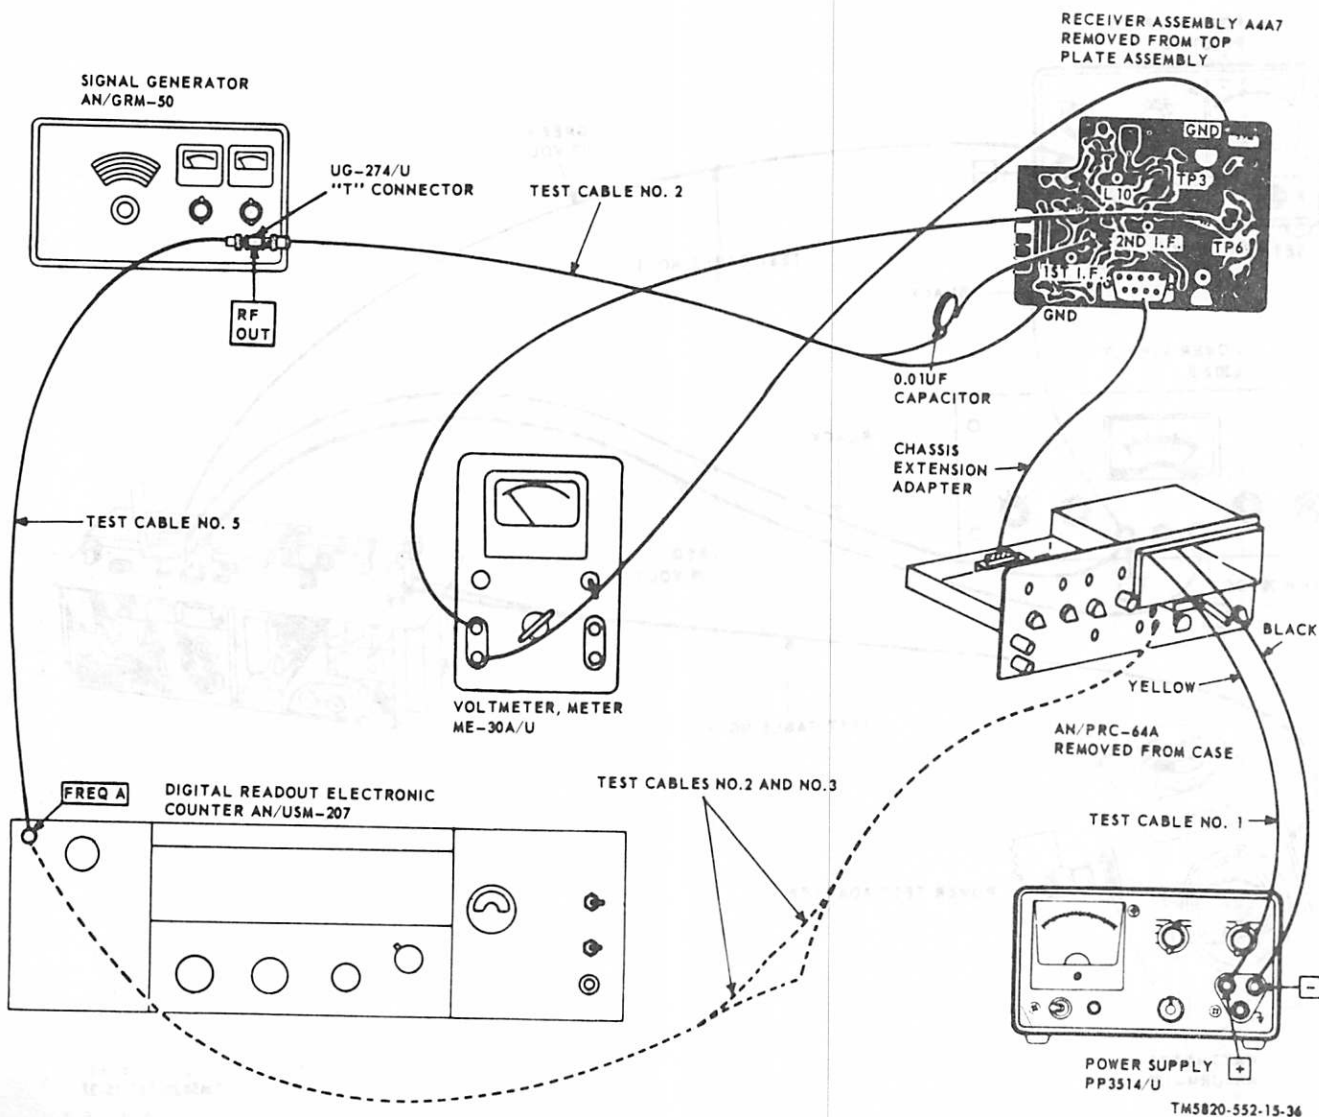

Figure 7-21. Receiver IF alignment, test setup.
a. Construct the chassis extension cable and test cables as shown in figure 7-21. See figure 7-1 for construction details.
c. Remove the battery from the AN/PRC-64A and connect the test equipment as shown in figure 7-21.
- (1) RECEIVER CHANNEL: Any
- (2) BFO: OFF
- (3) BW: 0.5 KC
- (4) GAIN CONTROL: Max. clockwise
(5) REC-SEND: REC
(6) LOADING: 1
(7) IND SENS: OFF
(8) All other controls: Any position.
PHONES jack of the AN/PRC-64A as shown by the dotted line in figure 7-21.